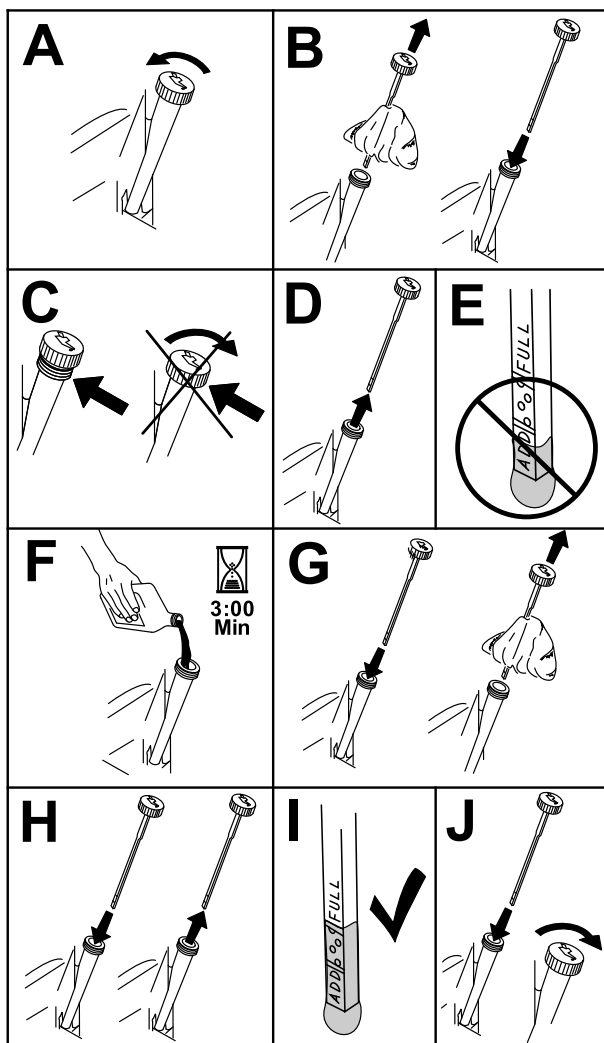

Figure 16
3. To keep dirt, grass clippings, etc., out of the engine, clean the area around the oil-fill cap and dipstick before removing it (Figure 16).